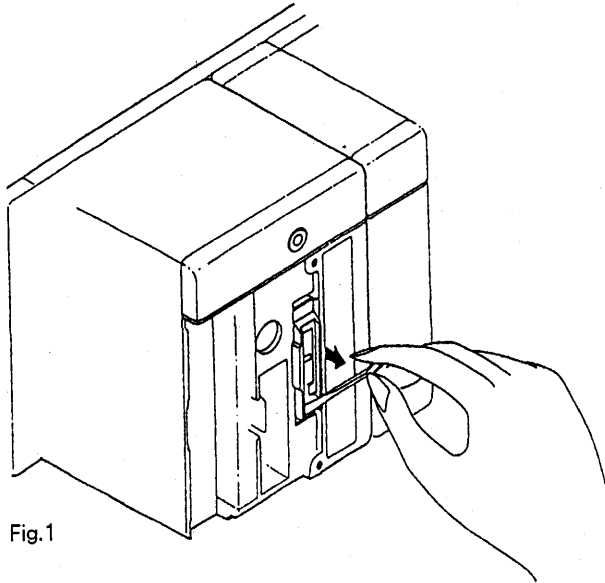

Fig.1
Remove the front cover of CPU module (fig.1).
- ② Turn off the power source to remove the memory cartridge under the cover of CPU module (fig.1).